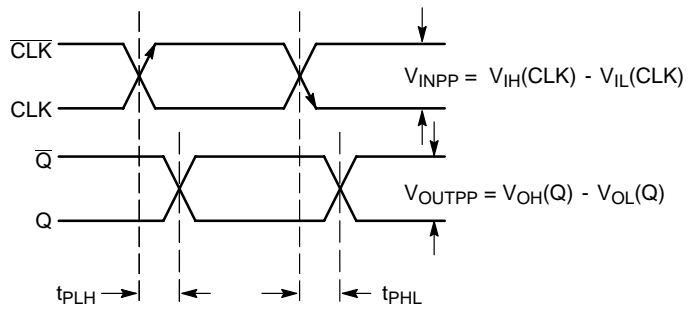

Figure 5. AC Reference Measurement
24. See Figure 5.  $t_{SKEW} = |t_{PLH} - t_{PHL}|$  for a nominal 50% Differential Clock Input Waveform.
29. See Figure 5.  $t_{SKEW} = |t_{PLH} - t_{PHL}|$  for a nominal 50% Differential Clock Input Waveform.